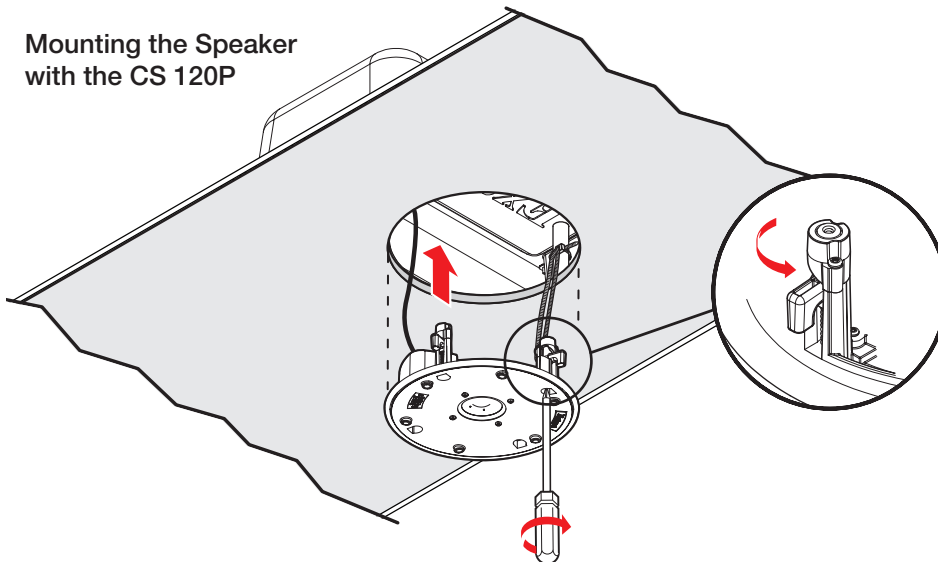

Figure 42. Mounting the Speaker
9. Mount the CS 3T (see figure 42).